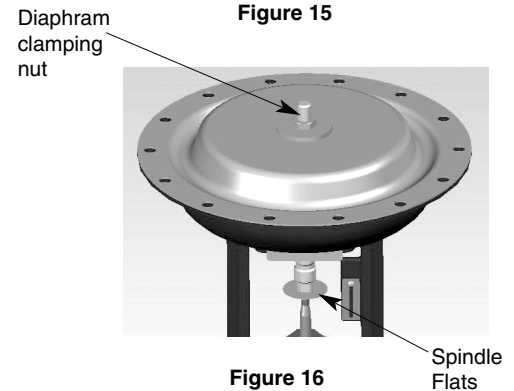

Figure 16
4. Using two wrenches, hold the actuator spindle on the wrench flats and remove the diaphragm clamping nut (Figure 16). Remove diaphragm clamping washers, o-ring and diaphragm.